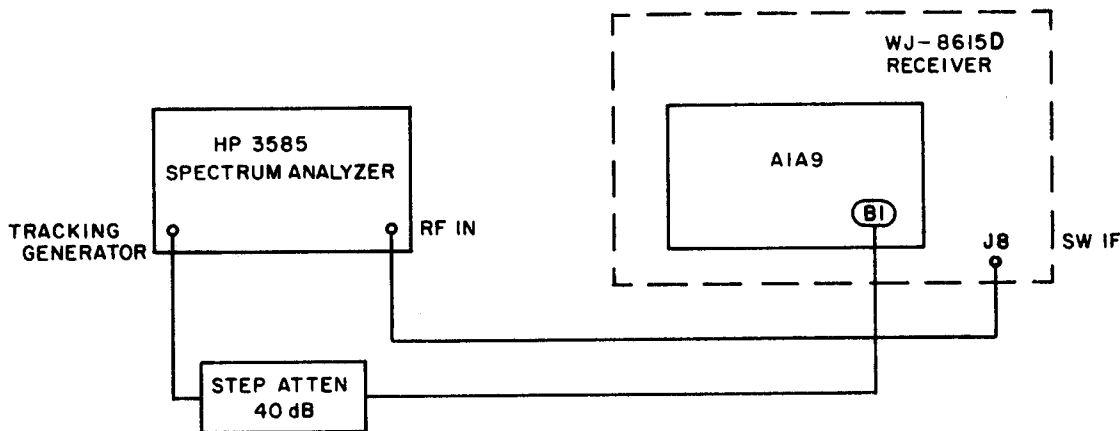

Figure 4-18. Switched IF Alignment, Equipment Connections
- 8) Connect the equipment as illustrated in **Figure 4-18**.
- 4) Set the signal generator output level to the minimum sensitivity level for the selected receiver bandwidth and connect the test equipment as illustrated in **Figure 4-18**.